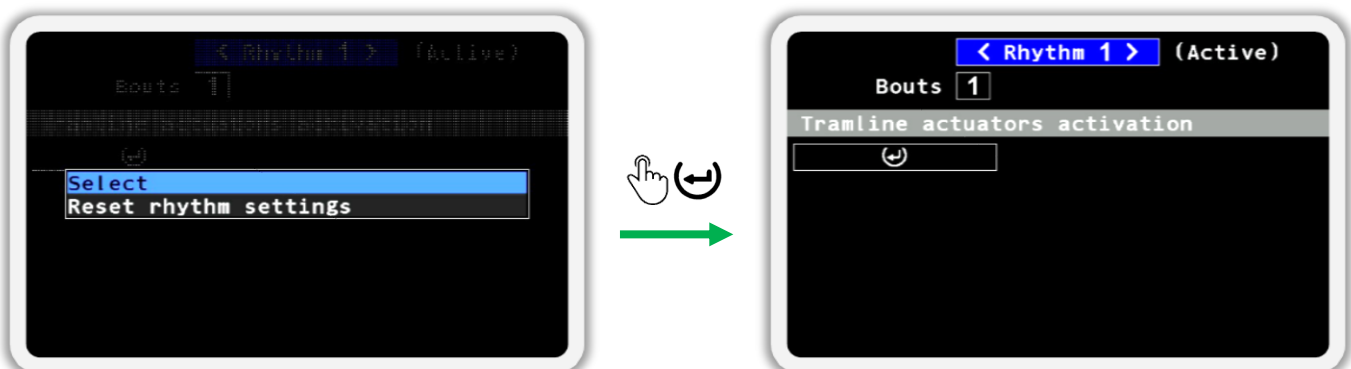

Figure 39
3. To switch between items on screen (↑) “Up” and (↓) “Down” buttons are used. Use these buttons to select item **< Rhythm 1 >** of the rhythm number setup. Use the (+) “Plus” and (-) “Minus” buttons to change the rhythm number. Press the (☰) “Menu” button and in the menu that appears select the 👤 “Select” item (see Figure 39). Press the (☰) “Menu” button again so that the selected rhythm becomes active and is used during the work on the field. When a rhythm is active, the message “Active” is displayed to the right of the rhythm number.